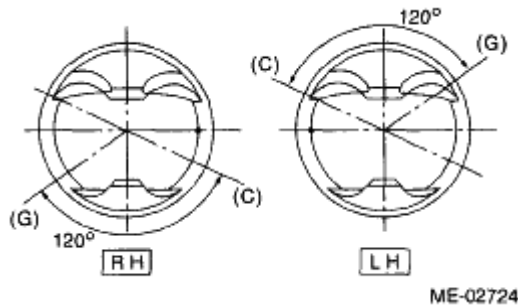

Fig. 174: Positioning Of Lower Rail Gap At (G)
18. Position the lower rail gap at (G) in **Fig. 174**.